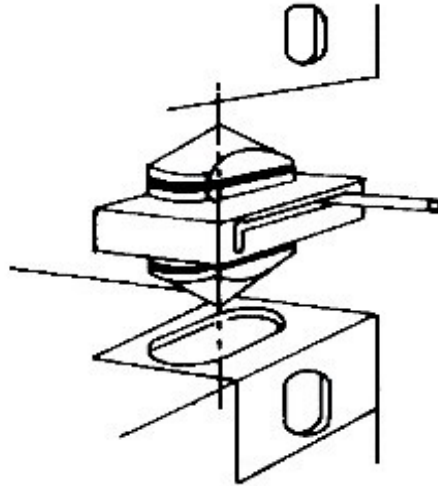

Figure 3-162
5. Ensure personnel install stack fitting twist lock devices between containers when stacking (see Figure 3-162).